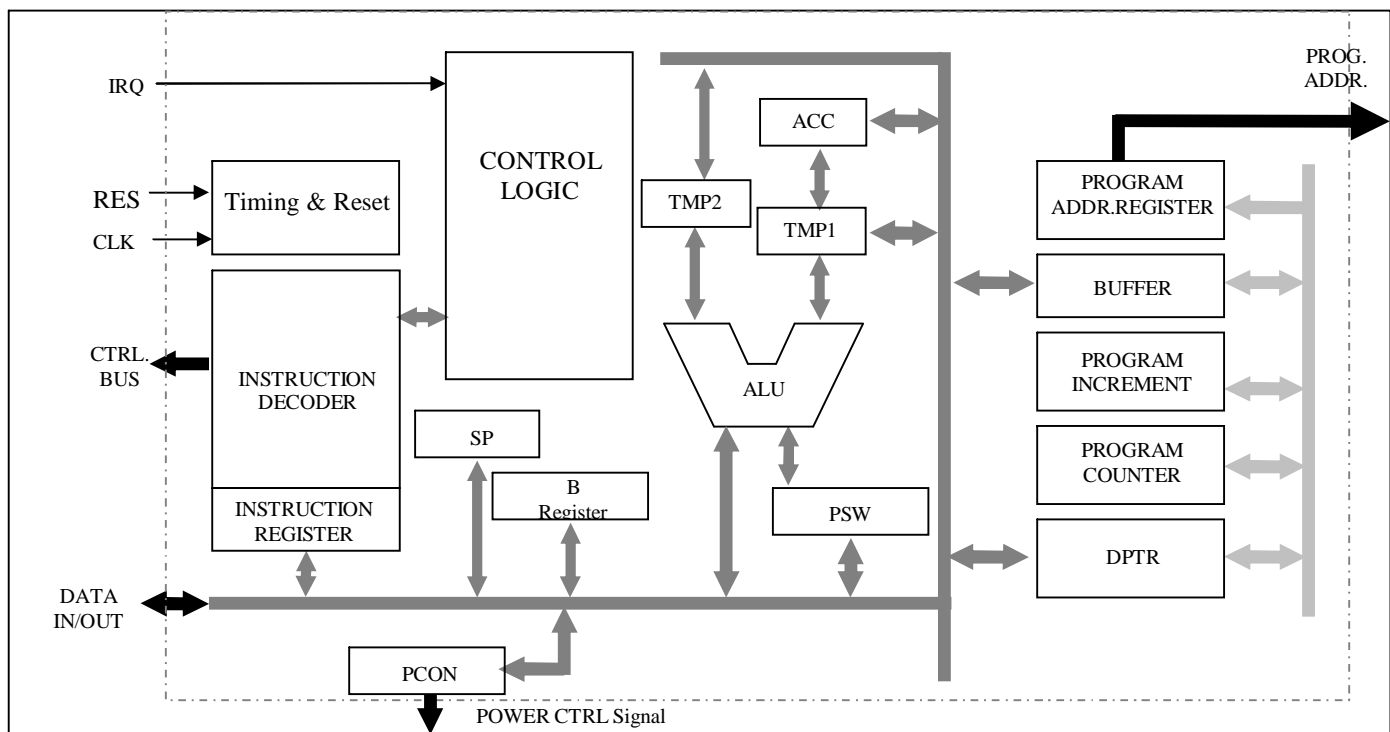

Figure 12 The CPU structure
The CPU of SM5964A is compatible to standard 80C51. The structure of this CPU is shown as FIGURE 12. It contains Instruction Register (IR), Instruction Decoder, Program Counter (PC), Accumulator (ACC), B Register, and control logic. This CPU provides a 8-bits bi-direction bus to communicate with other blocks in the chip. The address and data are transferred through on the same 8-bits bus.